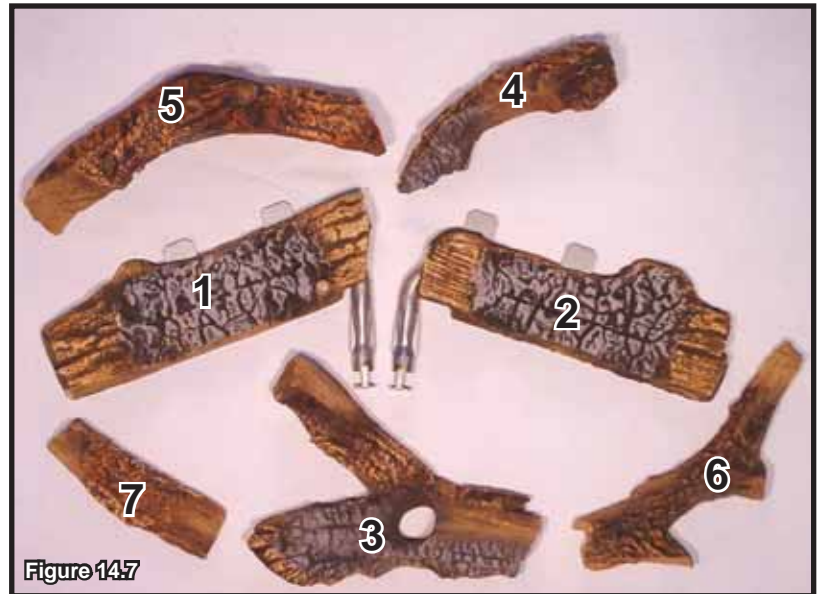

Figure 14.7
STEP 1. CAUTION: Logs are fragile! Carefully remove the logs, grate and supporting cardboard from the inside of the fireplace. See Figure 14.7.